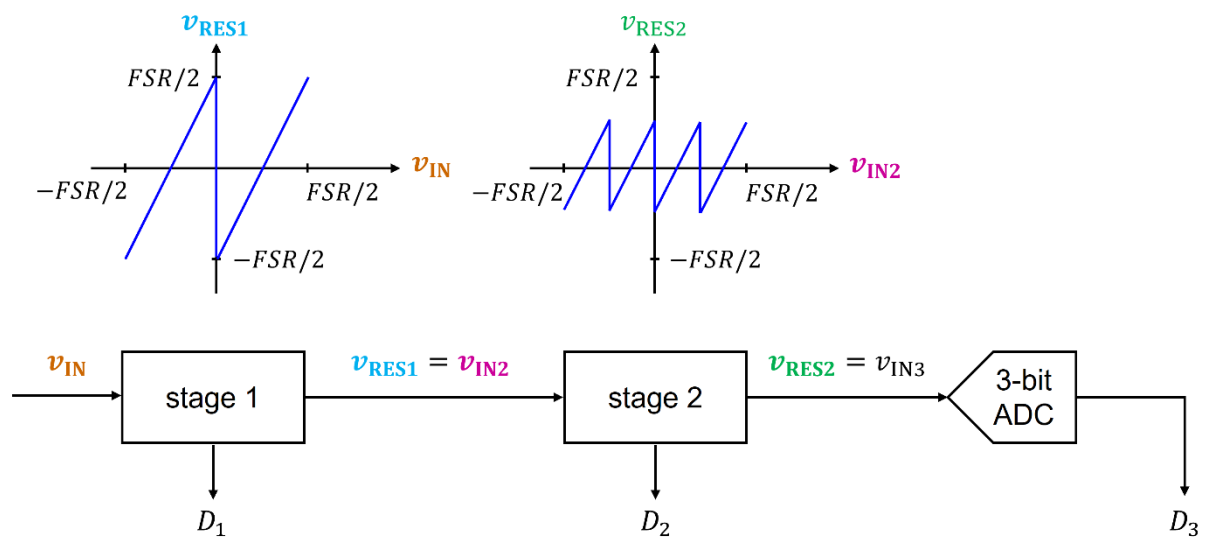

Figure 1: Pipeline ADC.
The block diagram of a 3-stage pipeline ADC is shown in Figure 1.
- h. Consider Figure 1 and derive the transfer characteristic of the ADCs used in stage 1 and stage 2, i.e., D_1 vs. v_{IN} and D_2 vs. v_{IN2} .